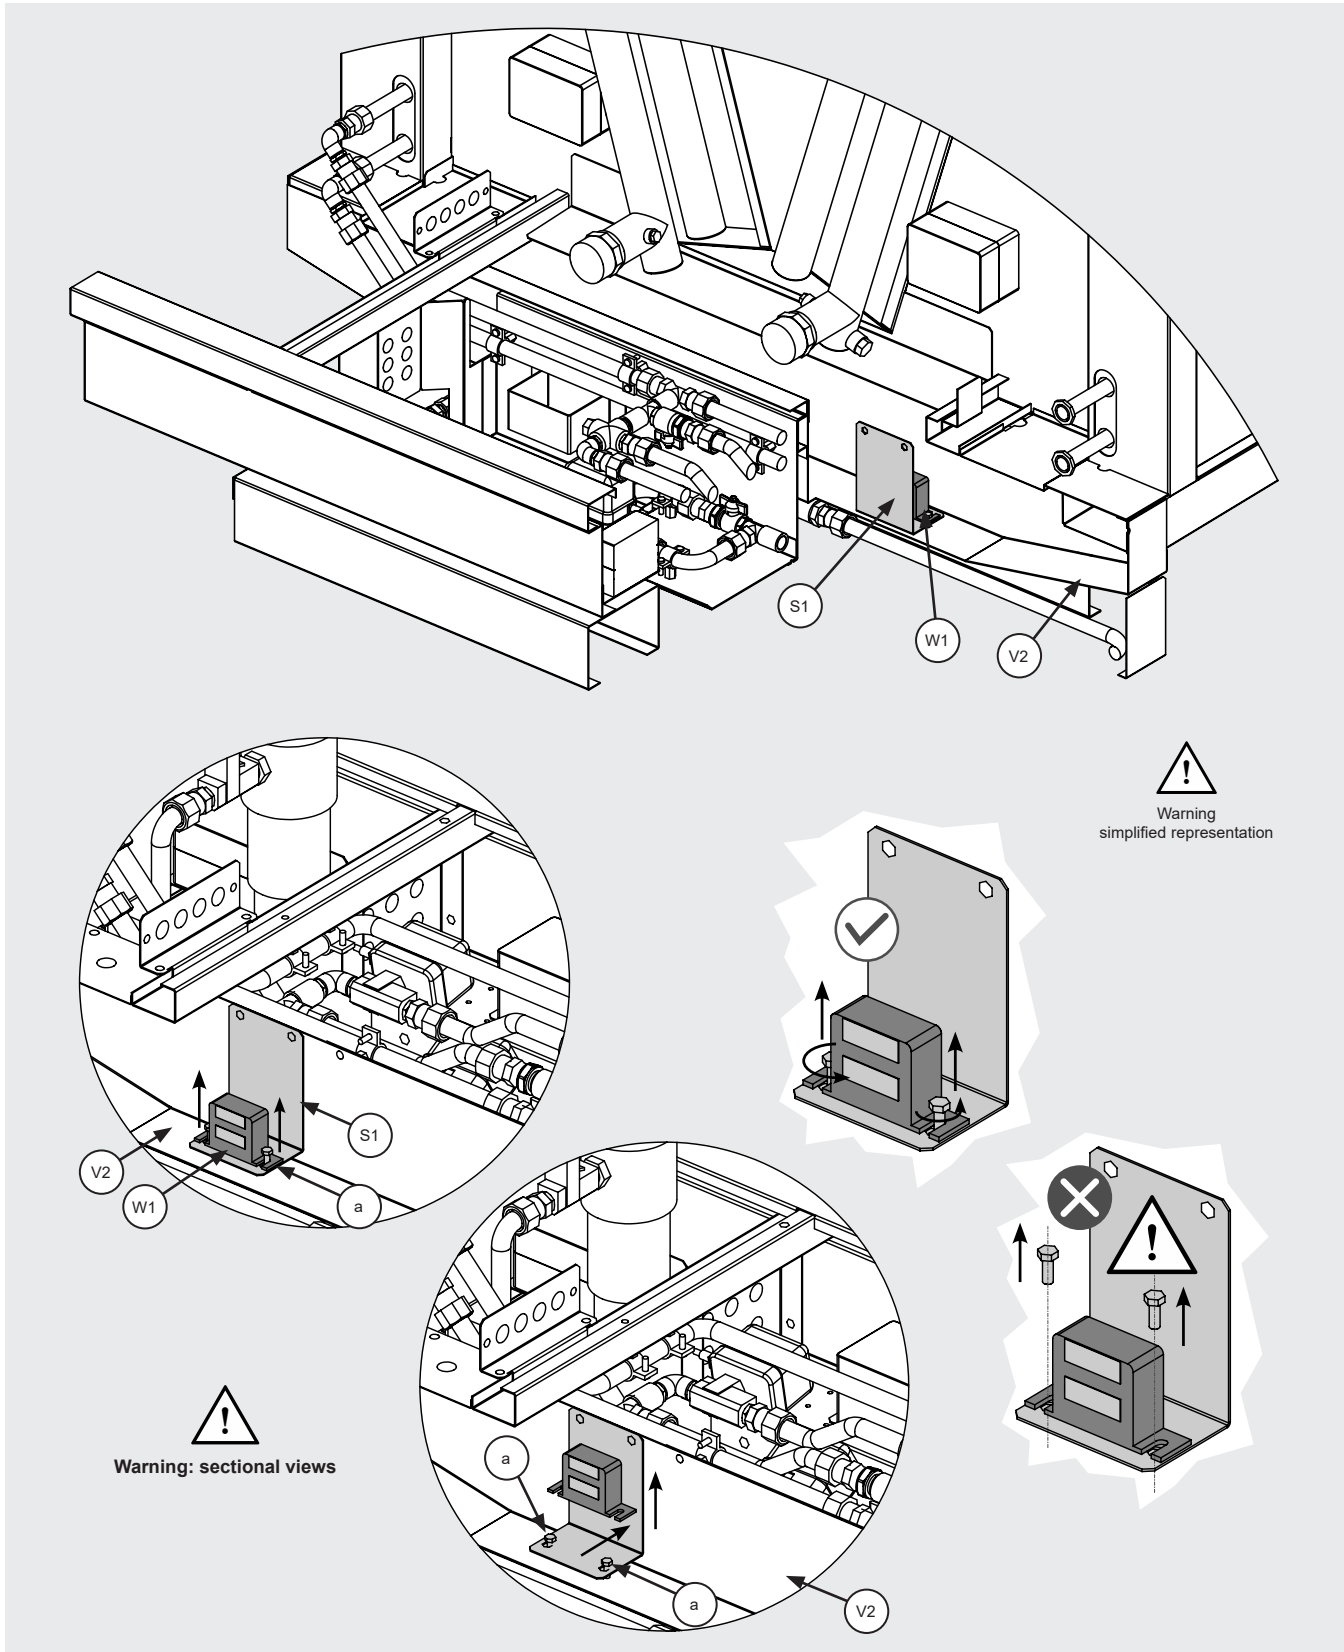

Figure 26
- 12.14.4 For replacement of level switch (W1), see Figure 26. (W1) is housed on a bracket (S1) which holds it in place.